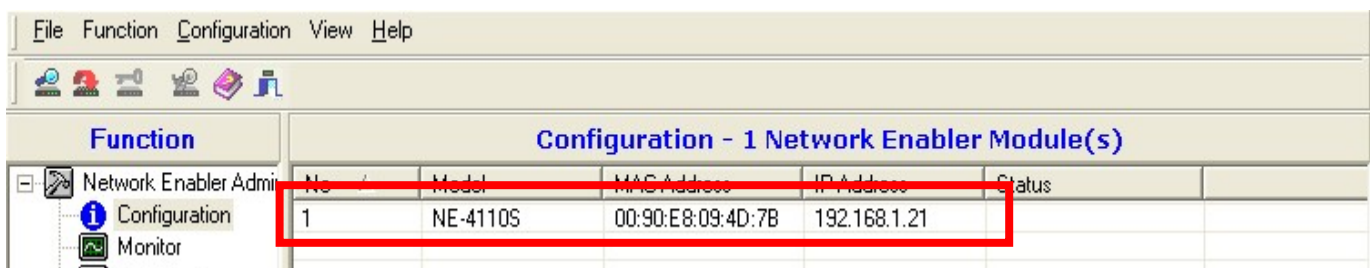

Figure A2-1: Network Enabler Software Configuration
6. The network adaptor with MAC address appears, as depicted in **Figure A2-1** below: